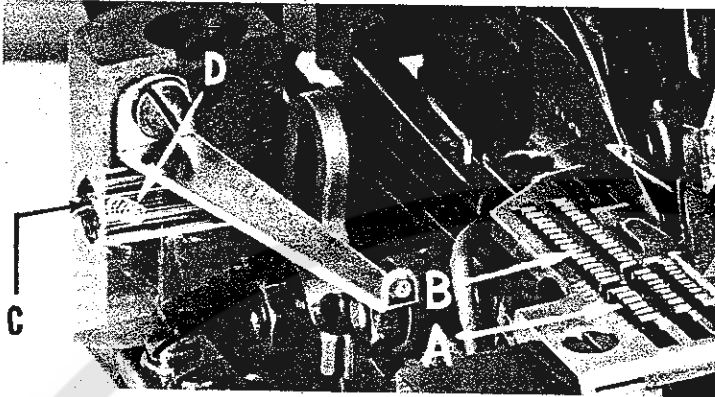

Fig. 12
Now assemble differential feed dog (A, Fig. 12) if not already on machine. Assemble main feed dog (B) and set both feeds so the top surfaces of the teeth all lie in the same plane. This can be checked by sighting across the teeth with throat plate surface by rotating feed tilting adjusting pin (C). This pin raises or lowers the back end of both feed bars at the same time.